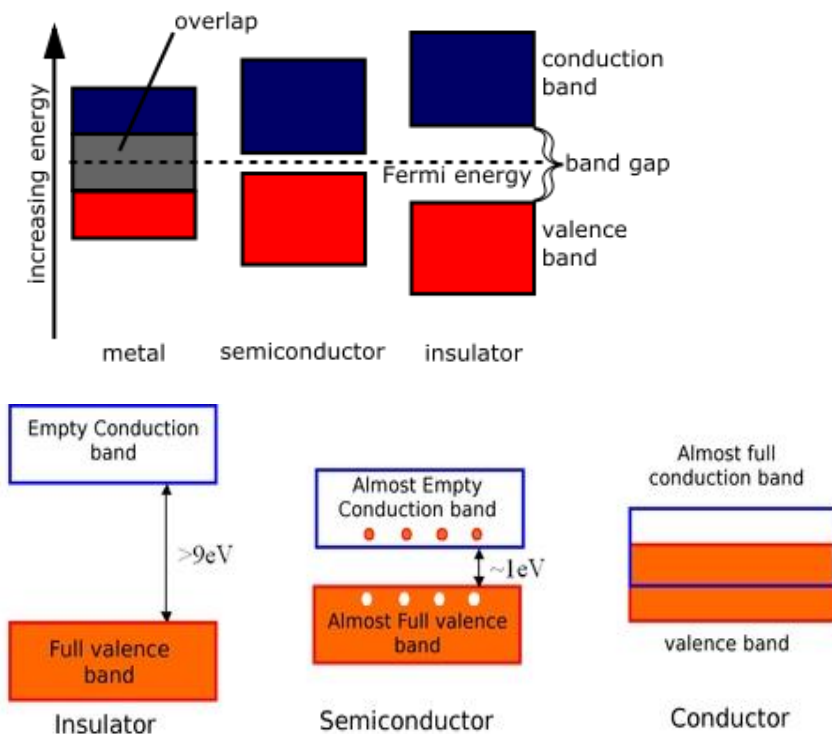

Figure 2 : Representation of energy bands
**(i) Insulators.** Insulators (e.g. wood, glass, plastics, rubber etc.) are those substances which do not allow the passage of electric current through them. In terms of energy band, the valence band is full while the conduction band is empty as shown in Fig 2. Further, the energy gap between valence and conduction bands is very large (**15 eV**). Therefore, a very high electric field is required to push the valence electrons to the conduction band. For this reason, the electrical conductivity of such materials is extremely small. At room
(ii) **Conductors.** Conductors (e.g. copper, aluminum) are those substances which easily allow the passage of electric current through them. It is because there are a large number of free electrons available in a conductor. In terms of energy band as in Fig 2, the valence and conduction bands overlap each other due to this overlapping; a slight potential difference across a conductor causes the free electrons to constitute electric current.
(iii) **Semiconductors.** Semiconductors (e.g. germanium, silicon etc.) are those substances whose electrical conductivity lies in between conductors and insulators. In terms of energy band, the valence band is almost filled and conduction band is almost empty in fig 2. Further, the energy gap between valence and conduction bands is very small. The semiconductor has :